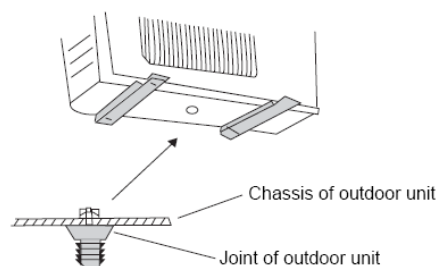

Fig.11-12
- Insert outdoor drainage joint into hole  $\phi 25$  at chassis as shown in fig.11-12, then connect the hose onto drainage nozzle can drain condensate and defrost water to proper place.